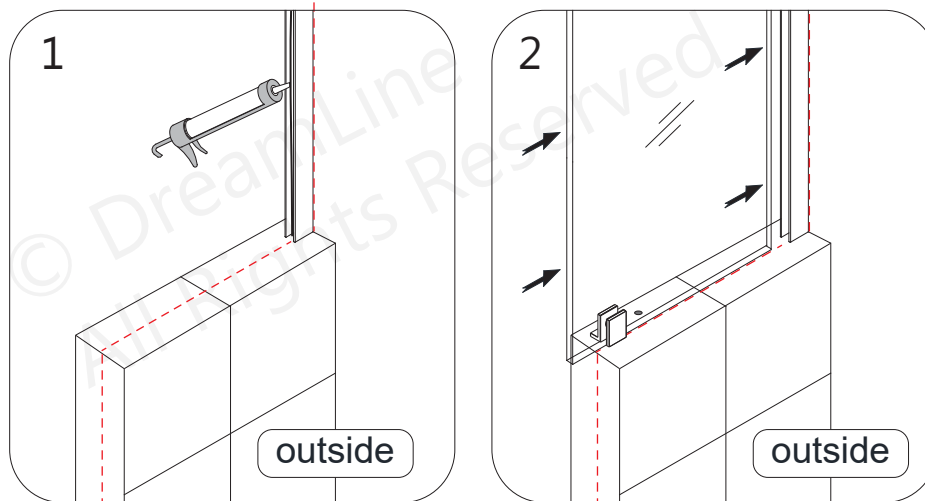

Fig 16
16. Add silicone to the inside of the installed **U-Channel (#01)**. Slide the **Buttress Return Panel Glass (#04)** back into the **U-Channel (#01)** and adjust the glass for level and plumb using the lines drawn in the previous step for reference. **(Fig 16)**